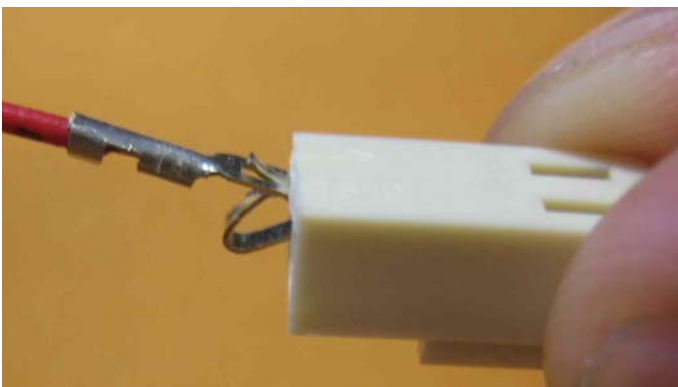
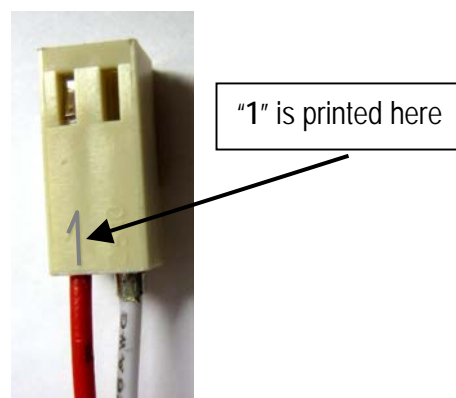

Fig 16d
Fig 16e
- Finally push each connector firmly into the plastic socket holder (see Fig 16d and Fig 16e). Make sure the red lead is connected to the side labeled “1” on the plastic socket.